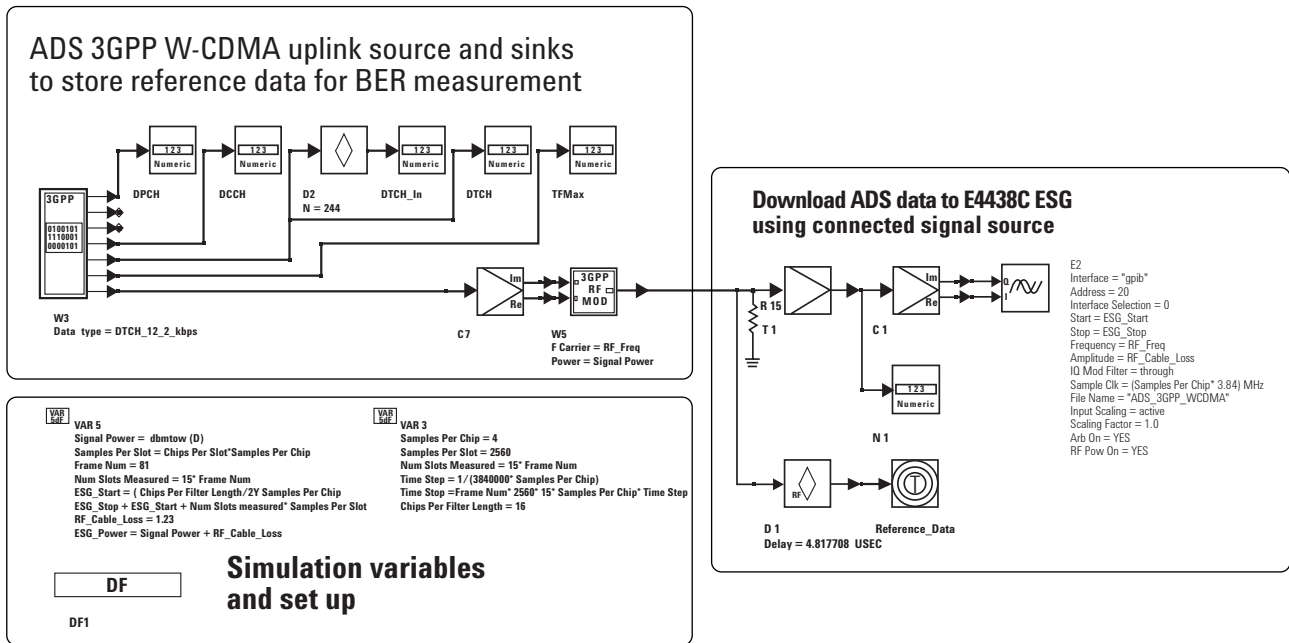

Figure 26. Baseline Connected Solution BER Reference Schematic with ADS-ESG Sink.
Step 1. An ADS schematic is created as shown in figure 26. This schematic was created by copying and modifying the WCDMA3G_BS_Rx_prj project, which is included with the ADS 3GPP W-CDMA design library (E8875A/AN).